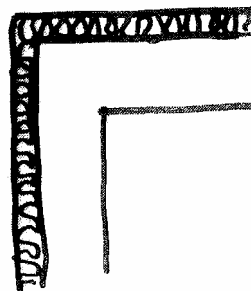

Figure 10.9 – Apply exterior insulation
- ❖ Apply exterior insulation and moisture barrier on outside walls. *Fig10.9*